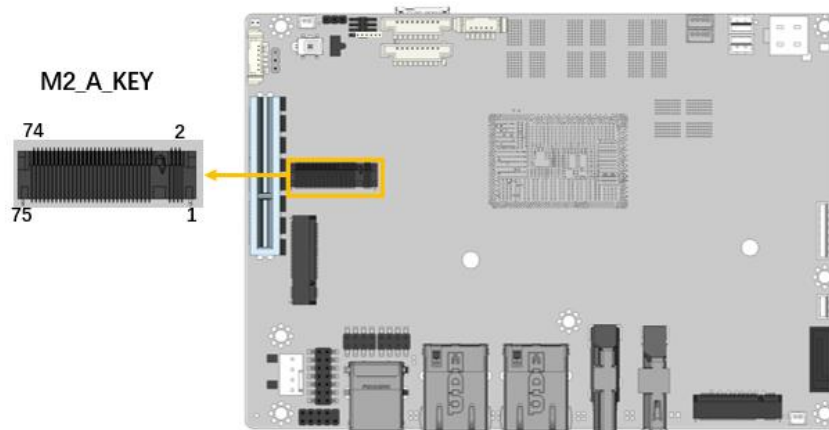

Figure 3-24: M.2 A-key Slot Location
- CN Location:** See Figure 3-24